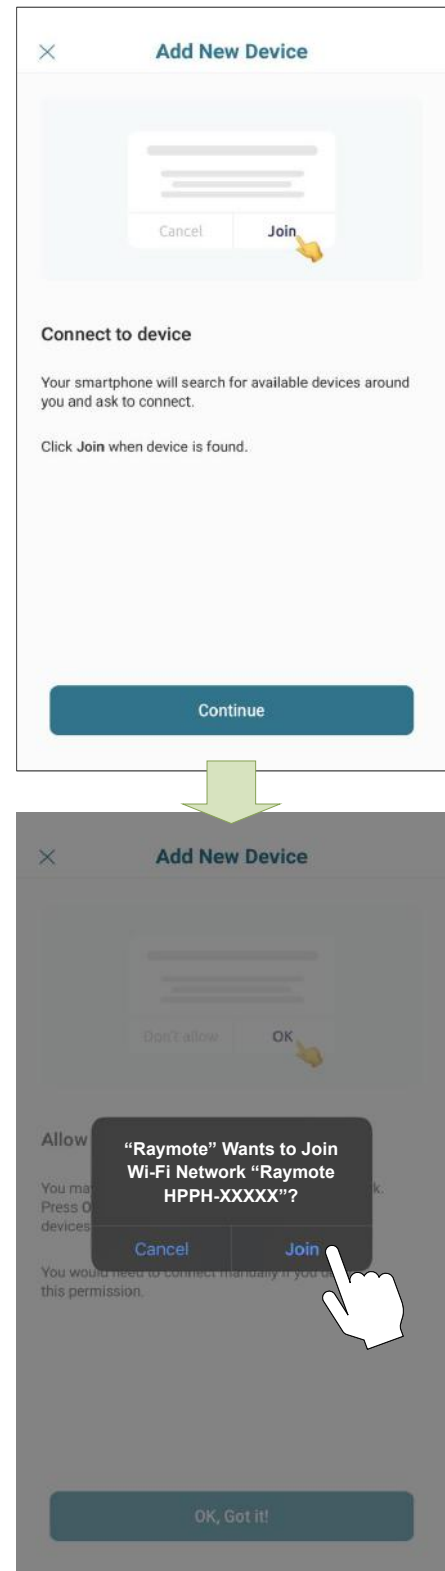

Figure 78. Connecting with iPhone
4. **In iPhone:** Raymote app will start to scan nearby heaters. If you have multiple units ready to connect, stand closer to the unit you want to connect first. Press "Join" to select the displayed heater that matches the HOTSPOT identifier, or press "Cancel" to start the process again. See Figure 78.